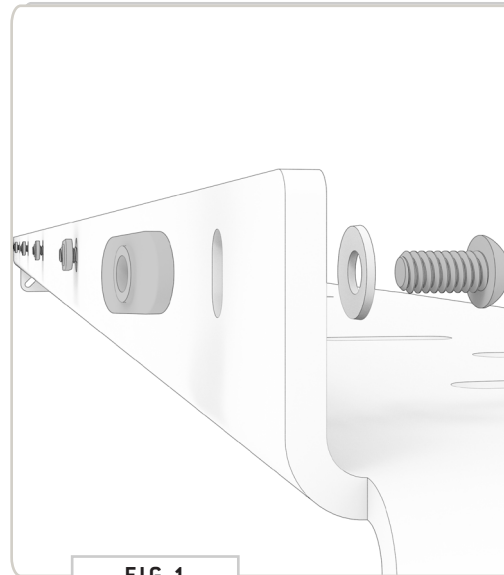

FIG 1
**1.1 Crossbar Fairing Bracket:** Stack a 1/4-20" x 0.5 Button Head Screw and 1/4" Belleville Lock Washer as shown in FIG 1 and insert into the six available front holes of the Fairing Light Bar Tray. Loosely assemble using a T-Nut. You'll only want to screw the T-Nuts on a little in order to provide clearance for the next step.